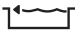

Figure 7. Pool Entry Point for Optimal Patterning
4. Place only enough floating cable in the water to reach the farthest end of your pool from the central point. Spread out the floating cable ensuring there are no kinks or coils in the cable (Figure 7).